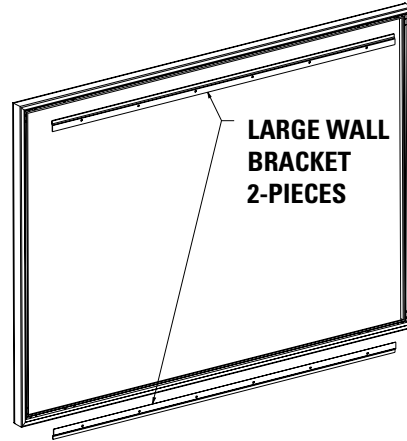

FIGURE 5
1. Secure the large wall bracket to wall studs at the desired height. Make sure the large bracket is level. The top of the frame will be 1/8" above the top of the large wall bracket when mounted. You will need at least 5/8" clearance above the bracket to hang the screen. Figures 5 and 6 show the proper orientation for the supplied wall brackets.